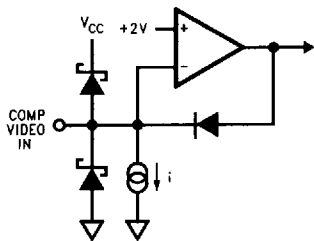

FIGURE 7
**Pin 9 - COMP VIDEO IN:** The composite video sync stripper is active only when no signal is present at pin 12 (H/HV IN). The signal to pin 9 must have negative-going sync tips which are at least 0.14V below black level. For best noise immunity, a resistor of 2 kΩ or less should be connected from the input side of the coupling cap to ground. See Figure 7 for the input schematic.